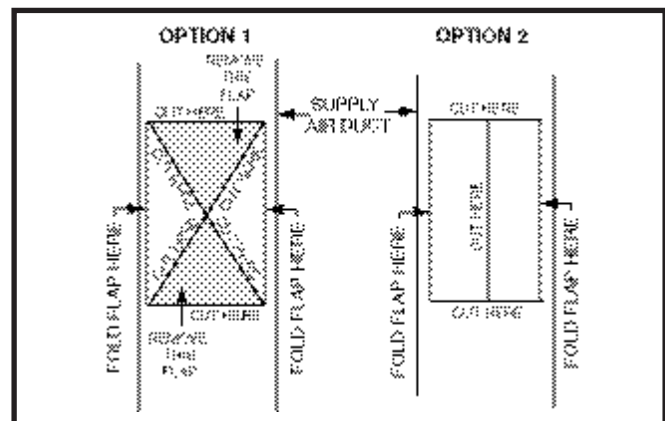

Figure 9. Narrow Air Duct Openings
- Bend the connector tabs on the bottom of the duct connector upwards and as tight as possible against the supply air duct. See Figure 9.